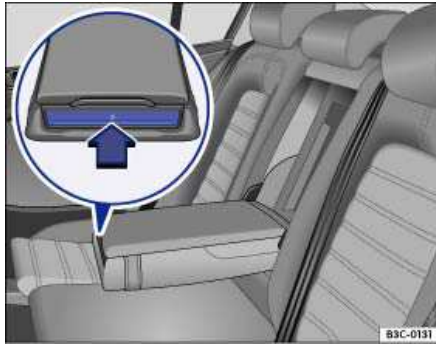

Fig. 129 In the rear center armrest: Opening the cup holders.
- ☐ Press on the front of the center armrest in the direction of the arrow ⇒ fig. 129. The cup holders open.